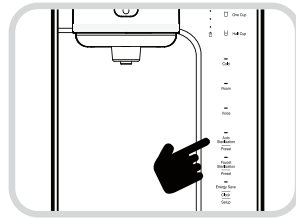

Fig. 10
1. Press the Energy Save/Clock (Setup) button for three (3) seconds in the Waiting Status. The Voice Guide will say "selecting user setting mode" "user setting mode, please set function by pressing the illuminated button".
2. Select the Cold Water Circulating Pump function by pressing the Automatic Sterilization/Preset button. (Fig. 10).